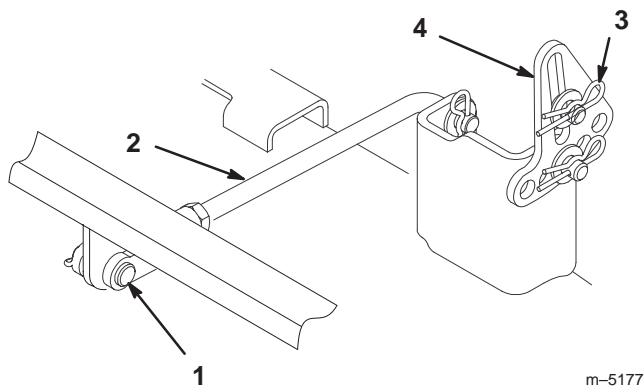

Figure 47
6. Remove the hairpin cotter and clevis pin from the rear trunion rod (Fig. 47) on each side of the mower.
7. Remove the hairpin cotter and washer at the mower leveling brackets (Fig. 47) on each side of the mower. Note which hole the leveling bracket is mounted in for future installation. Slide the brackets off of the mounting pin.
6. Attach the rear trunion rod to the tractor with the clevis pin and hairpin cotter (Fig. 47) on each side of the mower.
7. Slide the leveling brackets onto the mounting pins and secure them with the washers and hairpin cotteners (Fig. 47).